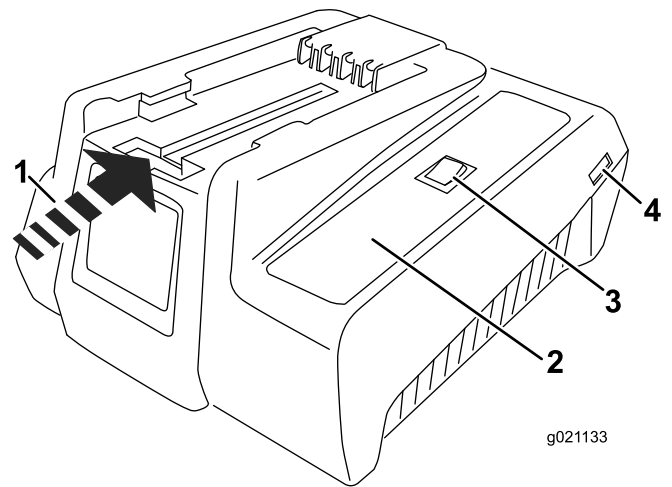
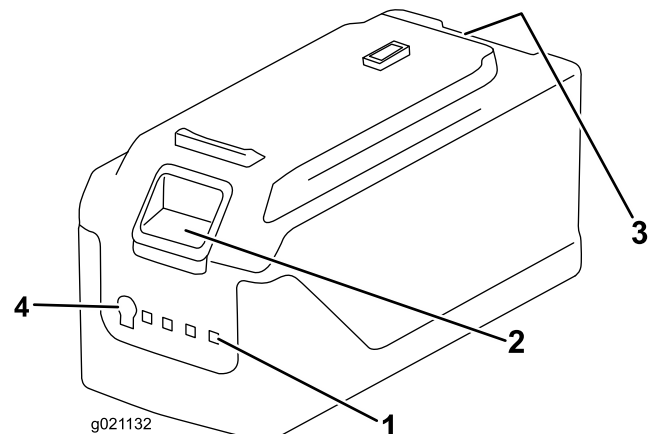

Figure 12
Figure 13
1. If the power cord is not plugged in to the charger, plug it in to the charger (Figure 12), then plug the power cord into a power socket.
2. Turn the battery upside down and line up the battery terminal with the slot in the charger (Figure 12 and Figure 13).